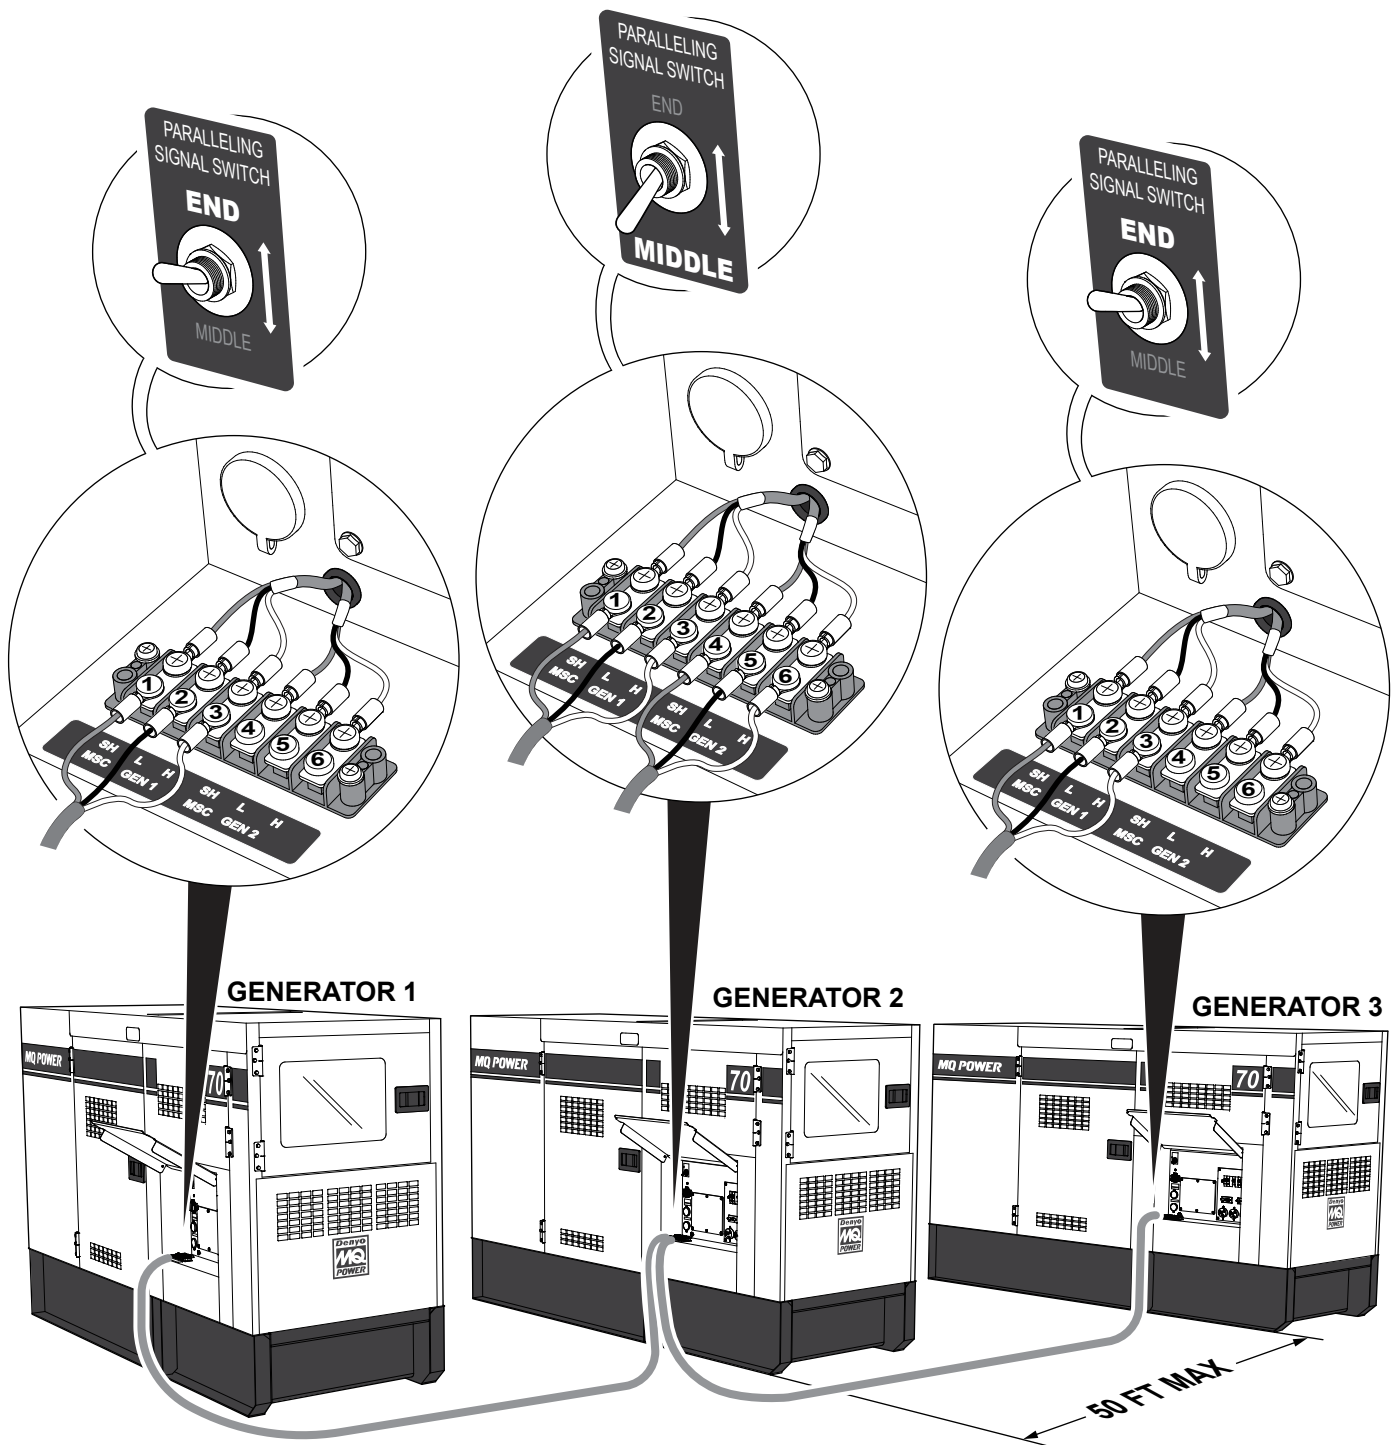

Figure 66. MSC Communication Cable Connections (Three or More Generators)
1. Make sure the spacing between each generator output terminal panel does not exceed **50 ft. (15.14 m)**. Referece Figure 66.
3. Connect the **three wires** from the MSC cable between the generators in accordance with Figure 66 and Table 15 via the 6-position terminal block located on the output terminal panel.